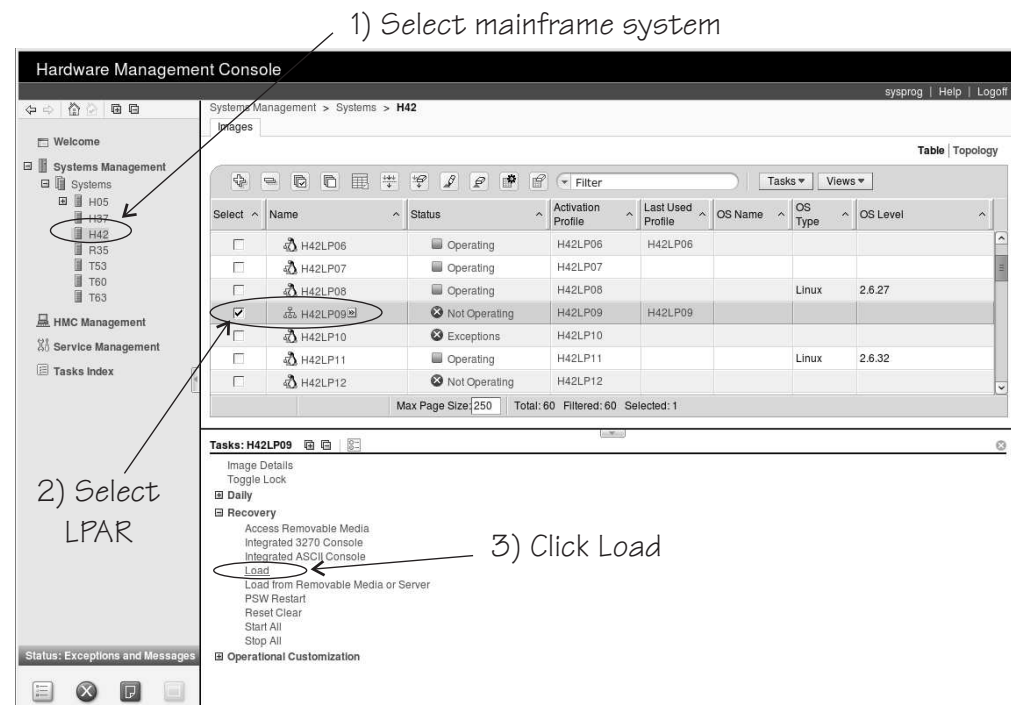

Figure 14. Load task on the HMC
3. In the **Tasks** area, expand **Recovery** and click **Load** (see Figure 14).